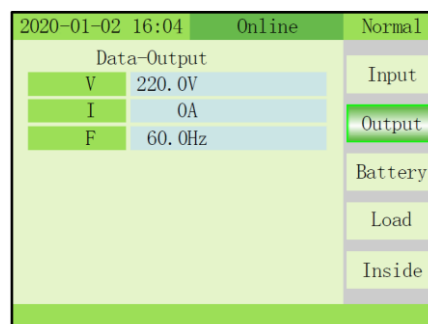

Fig. 3-10 Output menu
3) OUTPUT: Press key for short time to move to the second page, the second page of Data is Output data. (Fig. 3-10).